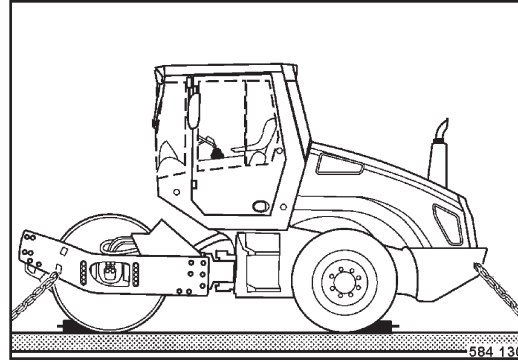

Fig. 77
- Lash the machine on the transport vehicle (Fig. 77), use the four lashing eyes on front and rear frame for this purpose.